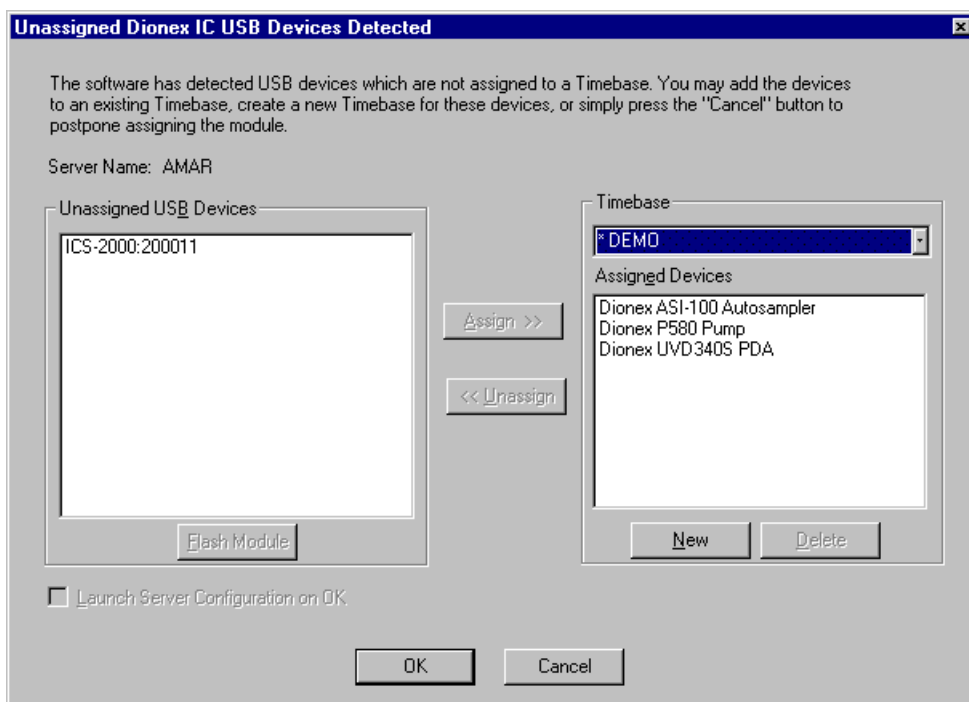

Figure 10. ICS-2000 Unassigned to Timebase
3. The Unassigned USB Devices dialog box appears (see Figure 10).